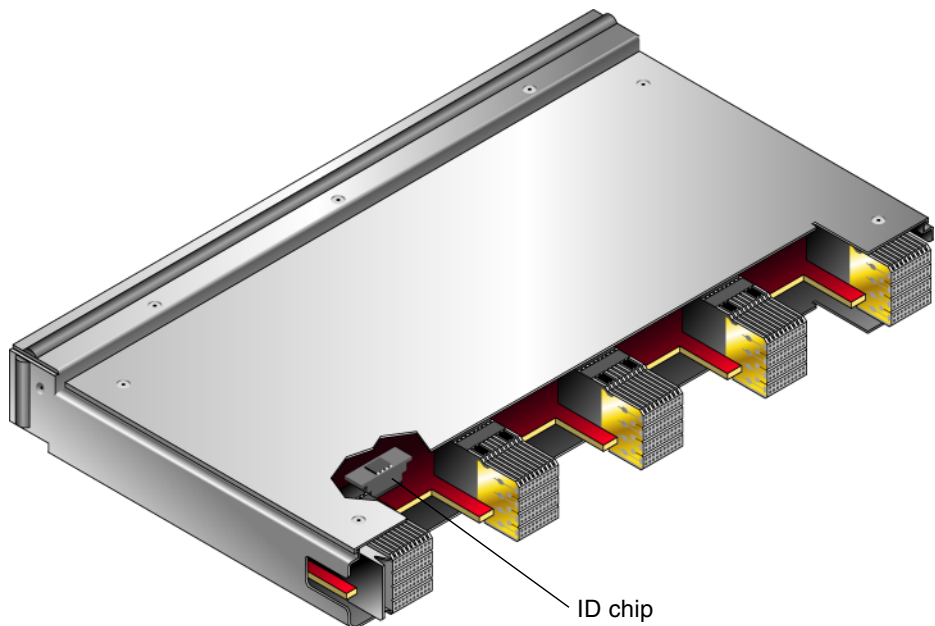

FIGURE 2-6 Location of ID Chip
1. After you have removed the failed NEM from the chassis, locate the ID chip at the back of the board (see FIGURE 2-6).